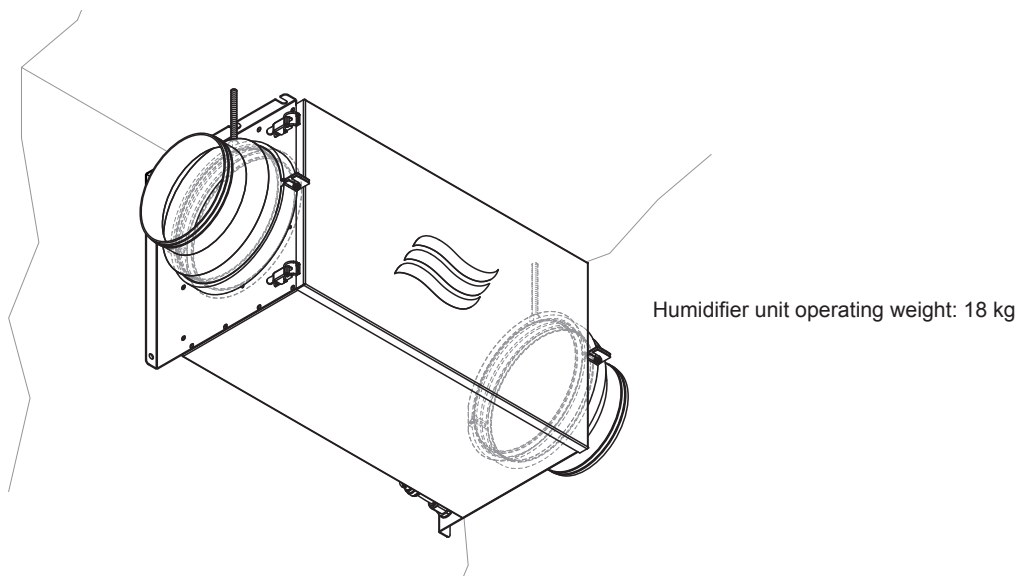

Fig. 12: Attach the humidifier housing to the pipe clamps
3. Attach the humidifier housing to the pipe clamps (see Fig. 12).